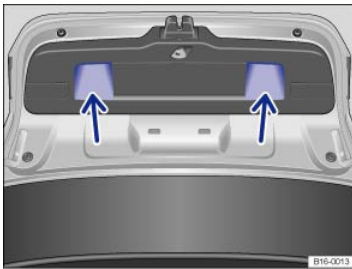

Fig. 28 Opened trunk lid: Recessed grips for closing.
- Grasp one of the recessed grips in the trim of the trunk lid ⇒ Fig. 28 (arrows).